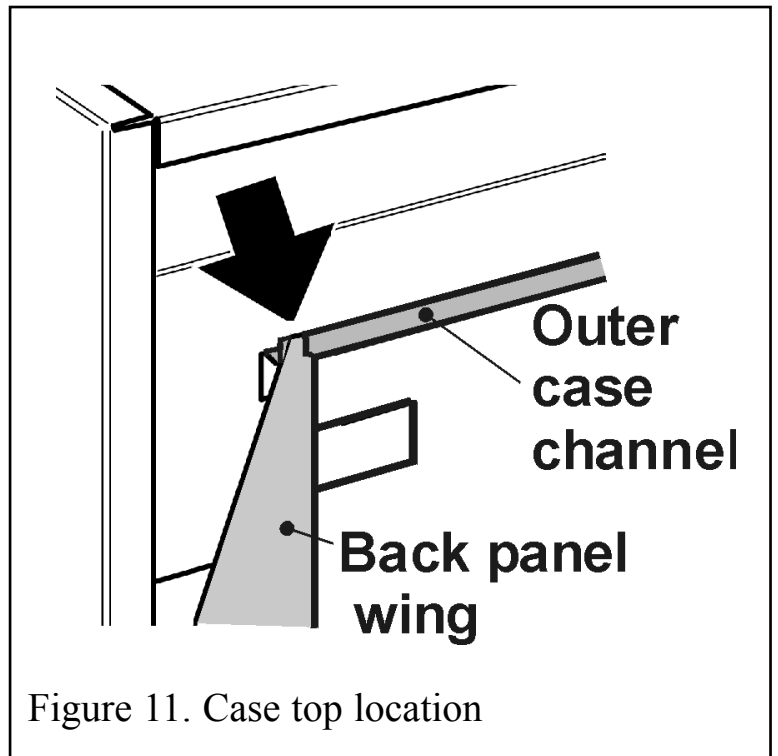

Figure 11. Case top location
- Place the case over the engine. Make sure that the channel near the top of the rear of the outer case locates fully into the wings of the engine back panel. See figure 11.
11.2.4. Replace in the reverse order. Make sure that the channel near the top of the rear of the outer case locates fully into the wings of the engine back panel. See figure 11 in the installation section.